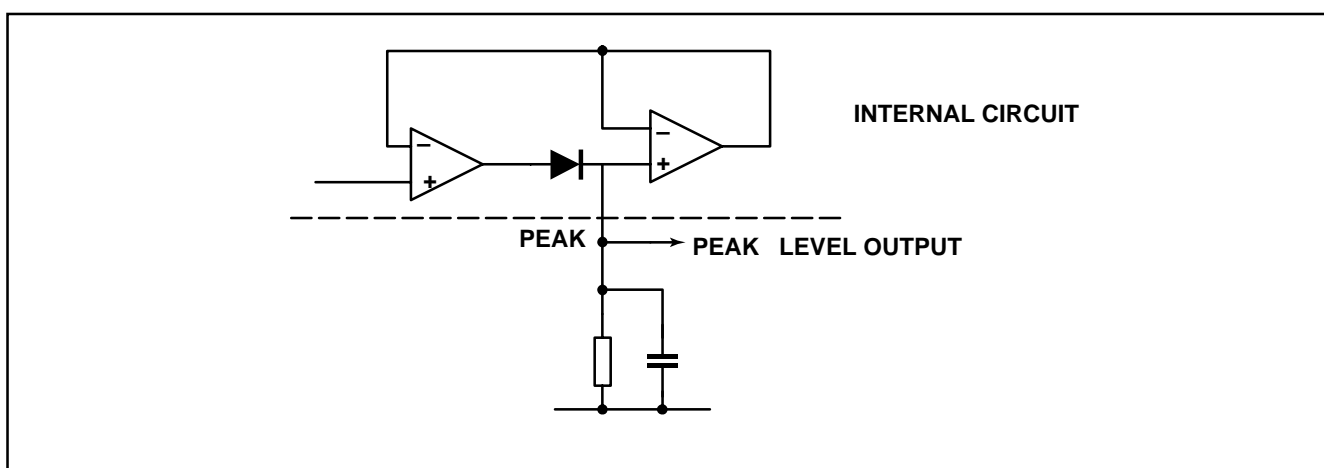

Fig. 5 Peak detector output
2. For coding schemes with d.c. content (e.g. low duty cycle pulse width modulation) an active peak detector is included. The output at pin PEAK represents the peak level at the data filter output (as shown in Fig.5). An external RC time constant at this pin determines the maximum attack and decay times of the peak detector. Typical values for the leakage and diode current source capability are shown in the specifications. The comparator has relatively low drive capability (push/pull current source output of 20 $\mu$ A) and hence DATOP should not be excessively loaded. On chip positive feedback around the comparator provides a nominal hysteresis level of 20mV.